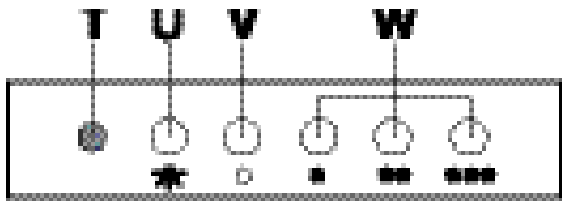

Fig. 15
- The hood should be left on for about 15 minutes after cooking, or until all odours have disappeared. The control switches are located on the unit's front panel (Fig. 15).